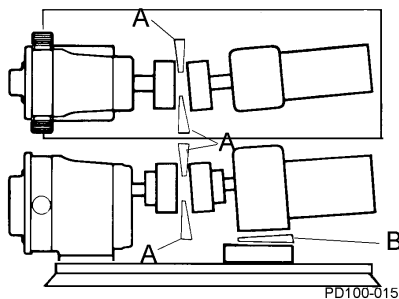

Figure 26 - Check Angular Alignment
1. Using feeler gauges or taper gauges (Figure 26, items A and B), check the alignment at four points every 90 degrees around the coupling; **adjust to equal dimension at all points.**